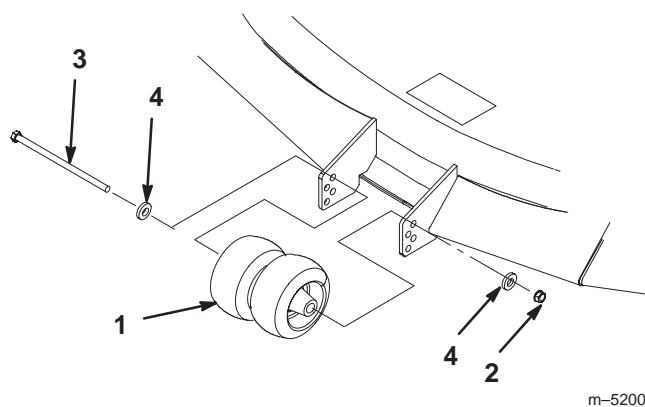

Figure 18
1. After adjusting height-of-cut remove bolt, washers and nut (Fig. 18).
2. Select a hole position so the gage wheels are a minimum of $\frac{3}{8}$ in. (9.5 mm) off the ground for the height-of-cut to be used (Fig. 18).
3. Reinstall the bolt, washers and nut (Fig. 18).